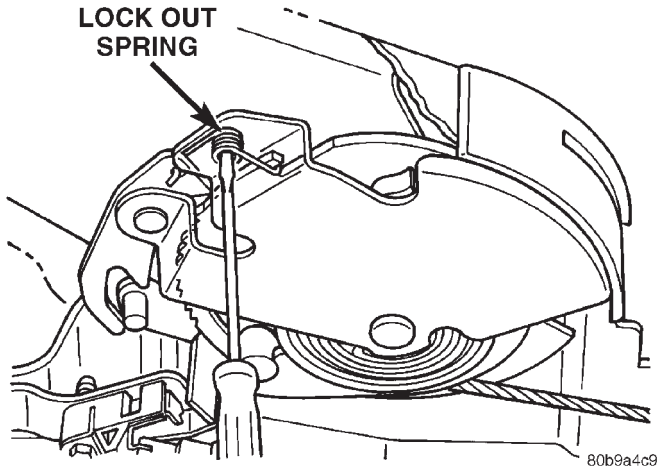

Fig. 53 Lock Out Spring
- (4) Have an assistant pry down the lock out spring through the hole in the side of the park brake lever (Fig. 53) with a small screw driver. Then slowly release the front cable.